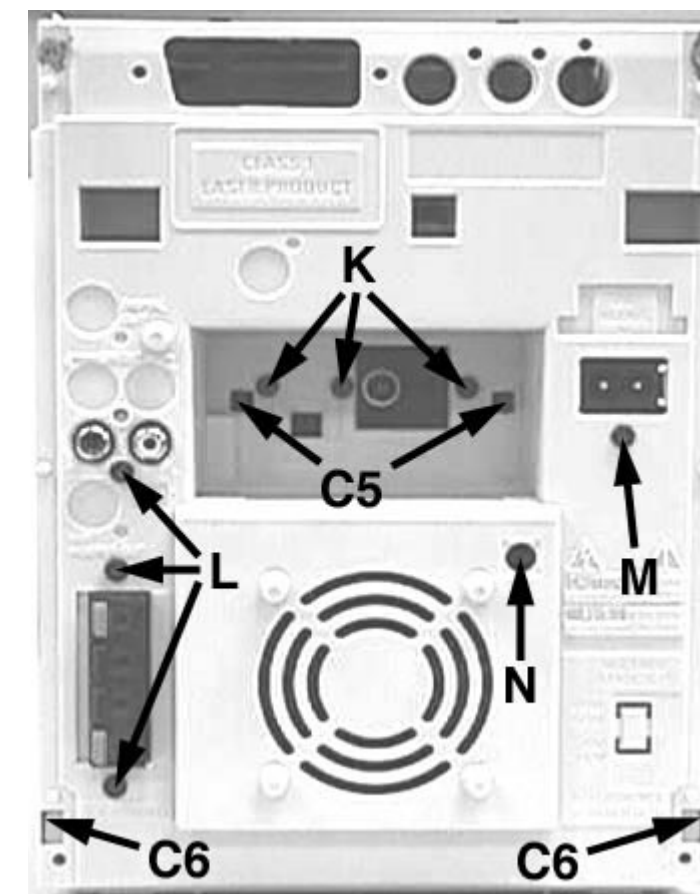

Figure 15
- 1) Loosen 3 screws K and 2 catches C5 (see Figure 15) to remove the Tuner Board assembly.
- 2) Loosen 3 screws L (see Figure 15) to free the Combi Board (pos 1102-1001).
- 3) Loosen 1 screw M (see Figure 15) to free the Mains Socket Board (pos 1102-1002B).
- 4) Loosen 1 screw N and 2 catches C6 (see Figure 15) to free the Panel Rear (pos 230) by sliding it out towards the rear.